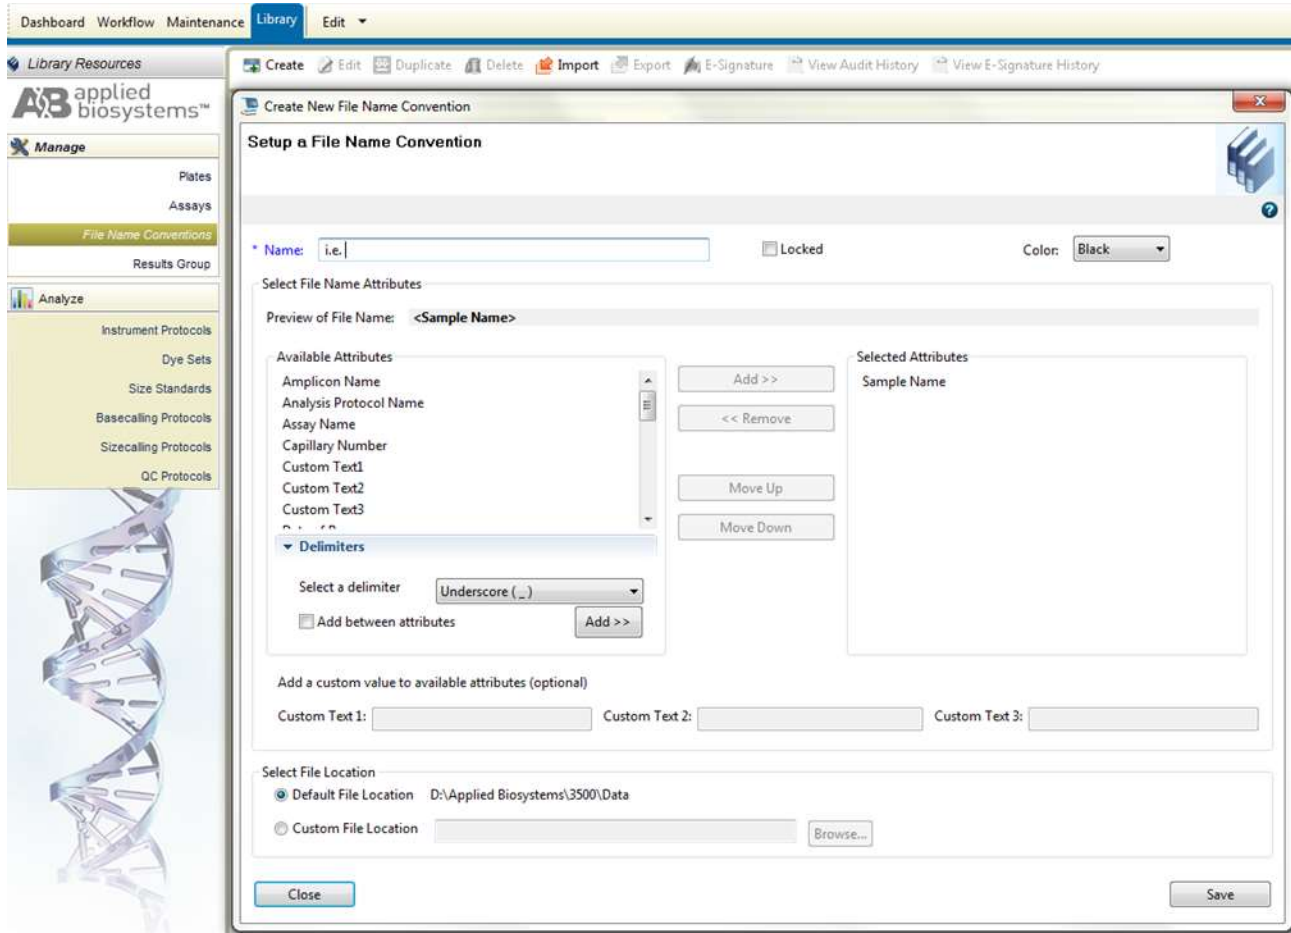

Figure 9. Screenshot for the “Create New File Name Convention” window on Applied Biosystems® 3500 Data Collection software
- c) Select “*Create*” (Figure 9)